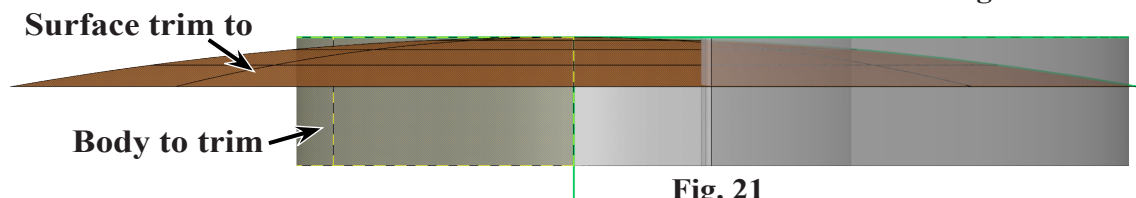

Fig. 21
Step 2. Click **solid body below the surface** as body to trim, **Fig. 21**.
Step 3. Click **surface** as surface or sheet trim to, **Fig. 21**.